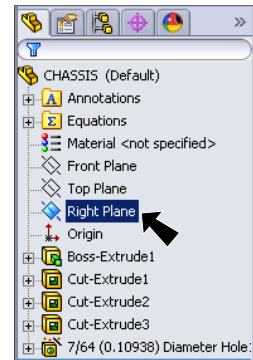

Fig. 37
Step 2. Click **Right Plane**  in the Feature Manager to select Plane, **Fig. 37**.